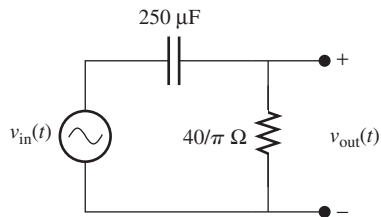

FIGURE P7.19 Circuit for Problem 7.19.
- 7.19** (A) Sketch the Bode plot of the transfer function for the circuit shown in Figure P7.19.